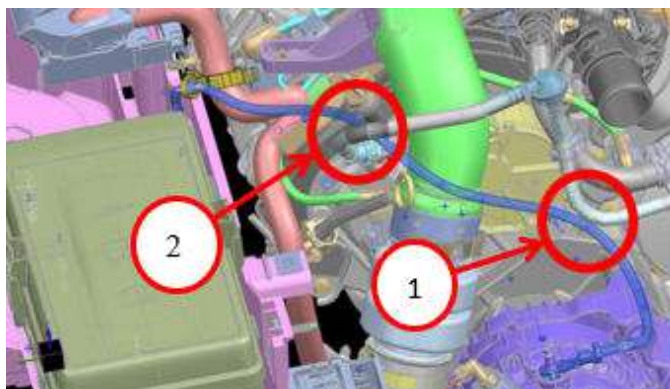

Fig. 2
4. Re-route generator positive harness around the Charge Air Cooler (CAC) inlet hose and secure with two tie straps to brake booster vacuum hose Fig. 2.